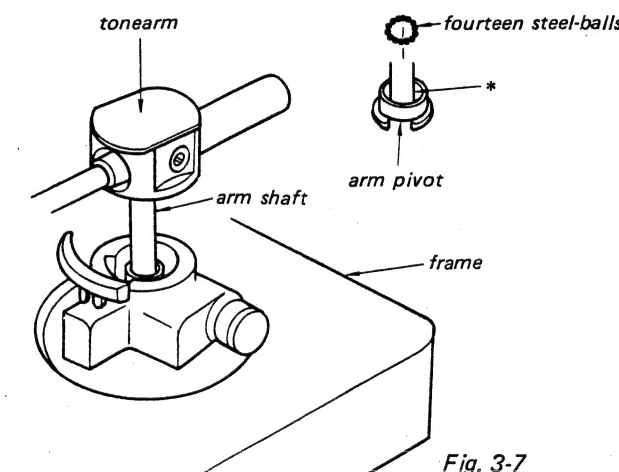

Fig. 3-7
1. Clean the portion of the arm pivot marked by in Fig. 3-7 with an alcohol-moistened swab.